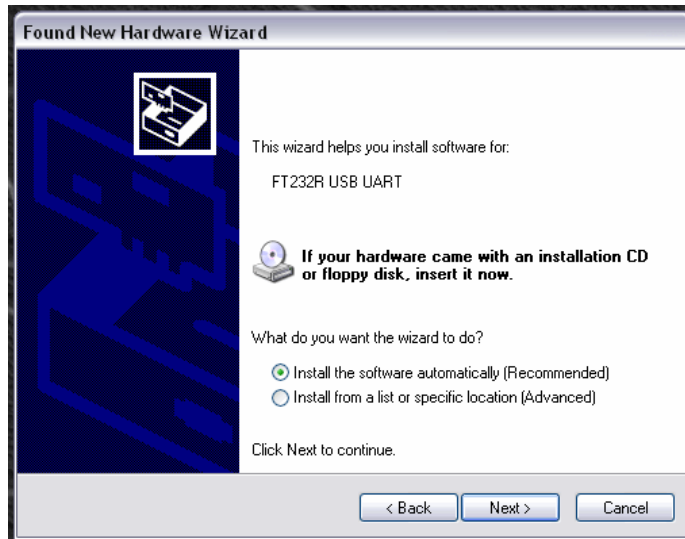

Figure 3: Automatic Driver Installation
- Select “Install the software automatically (Recommended);” then click **Next**. See Figure 3.